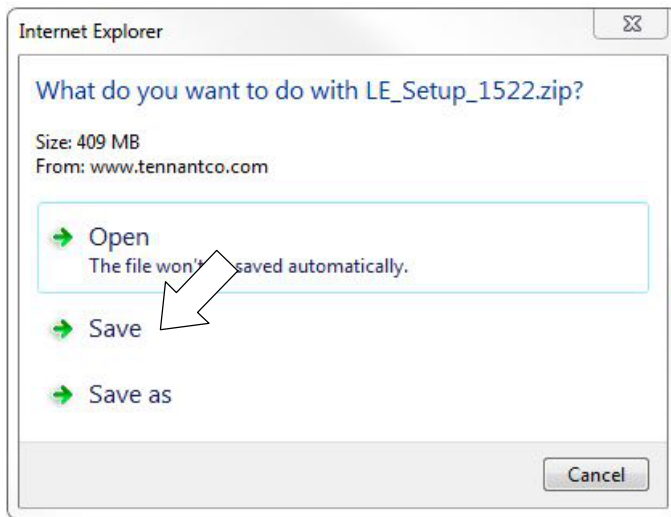

Fig. 13
- To download the service software continue to click as instructed then click the Save button (Figure 13).